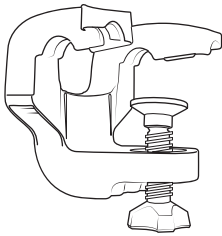

Fig. 2. Fixation stand
- Install the device on even surface (for example, on a table) on its 5 suction caps. If necessary fasten it with the fixation stand (see Fig. 2).